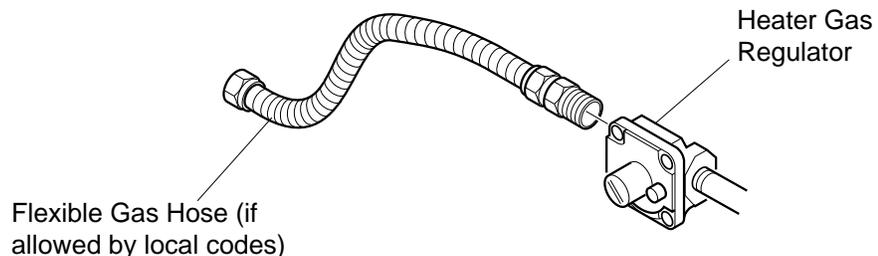

Figure 12 - Attaching Flexible Gas Hose to Heater Gas Regulator
1. Apply pipe joint sealant lightly to male threads of gas regulator. Connect approved flexible gas hose to gas regulator of heater (see Figure 12).